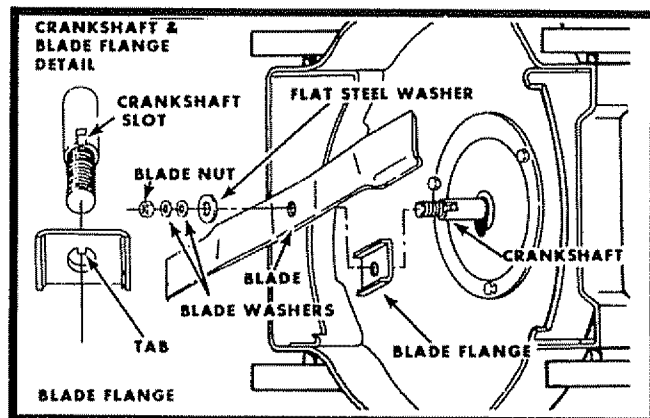

FIG. 5
- Put blade flange on engine crankshaft with tab in slot (See Fig. 5).
- Place flat washer, two (2) formed washers and nut on crankshaft (See Fig. 5).